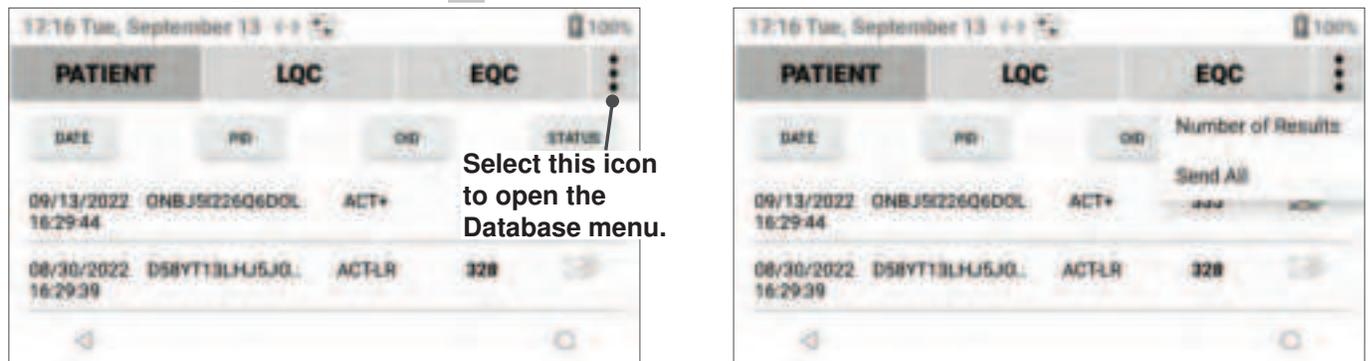

Figure 77: Database Menu
- 3 In the upper right corner, select to open the **Database** menu (Figure 77).